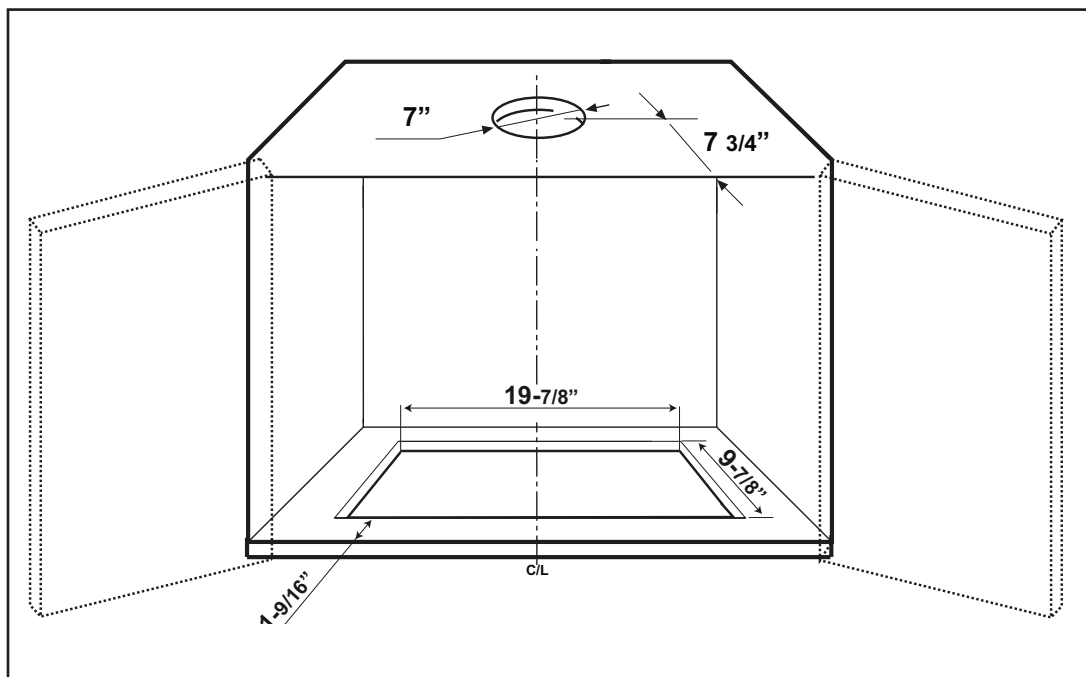
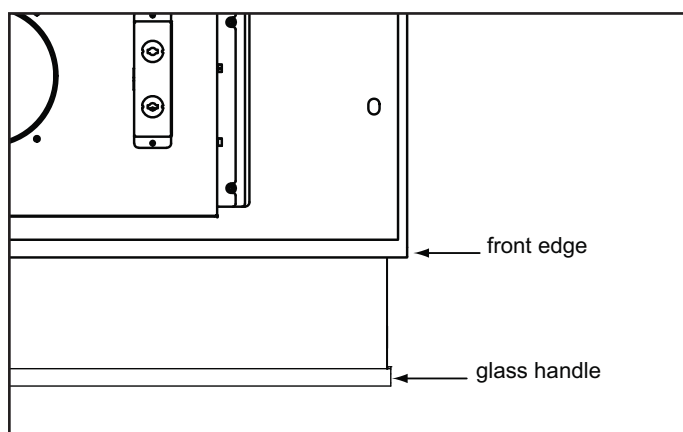
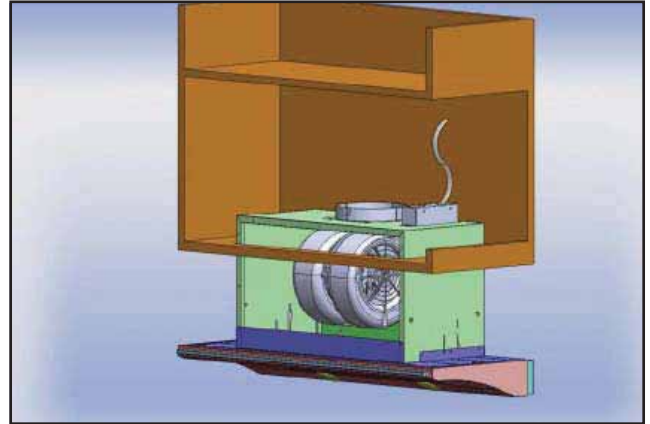

Fig.1
Fig.2
Fig.4
3. Follow the dimensions in Fig.1 and cut-out the bottom of your cabinet to create an opening for the hood to fit through. If you have a frameless cabinet begin the 1-9/16" measurement (*referenced in Fig.1*) from front of the cabinet door. This way the front edge of the hood will be flush with the cabinet doors when closed, see Fig.2.
- 3) Open cabinet doors. Lift range hood and slide it through the opening located in the bottom of the cabinet, Fig.4. Make sure opening matches the dimensions on page 9, Fig.1.